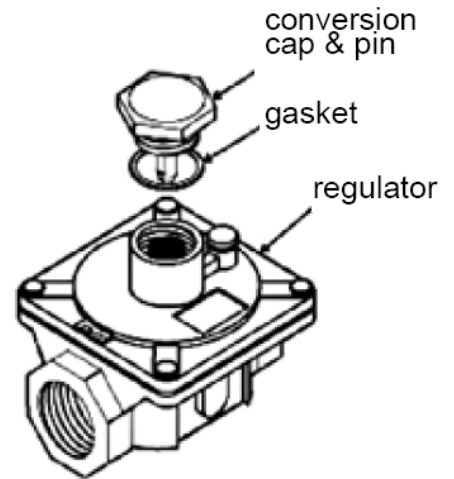

fig. 1 Gas pressure regulator
7. To operate with LP gas the regulator must be changed to operate at 10" W/C. (see fig. 1 on page 4) To do this remove the cover cap and pin from the regulator, remove the pin and invert then reinstall in the cap. Replace the cap on the regulator taking care that the gasket is in place on the cap.